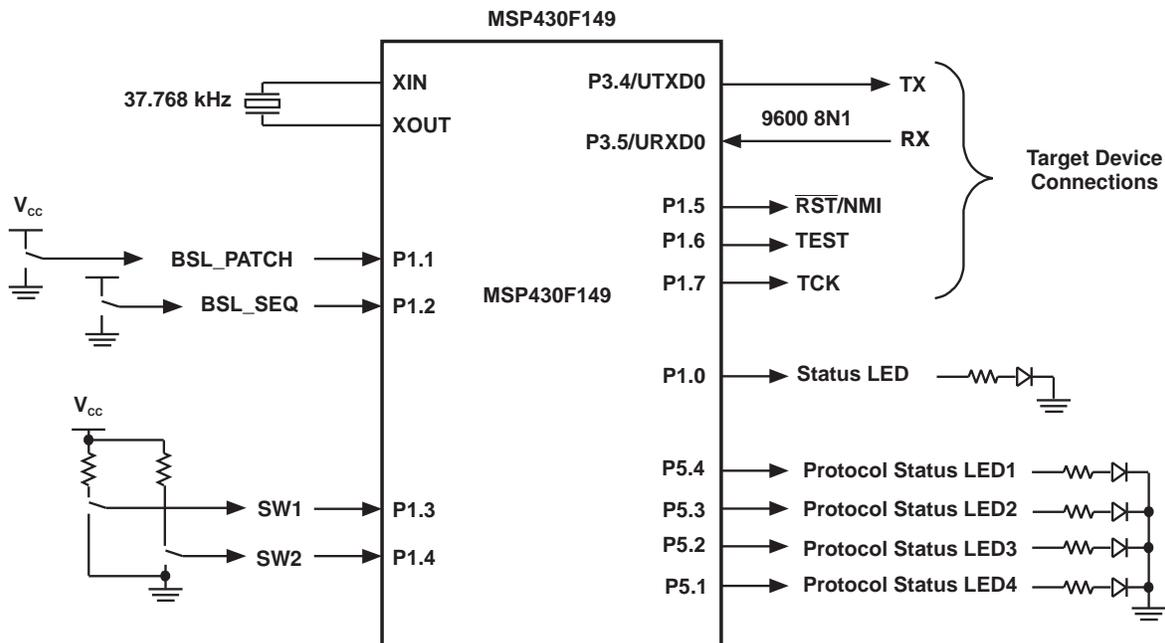

Figure B-1. BSL Replicator Block Diagram
Figure B-1 shows a block diagram of the BSL Replicator.
The input signals shown in Figure B-1:
The output signals shown in Figure B-1:
1. Connect the BSL Replicator to the Target device as shown in Figure B-1.